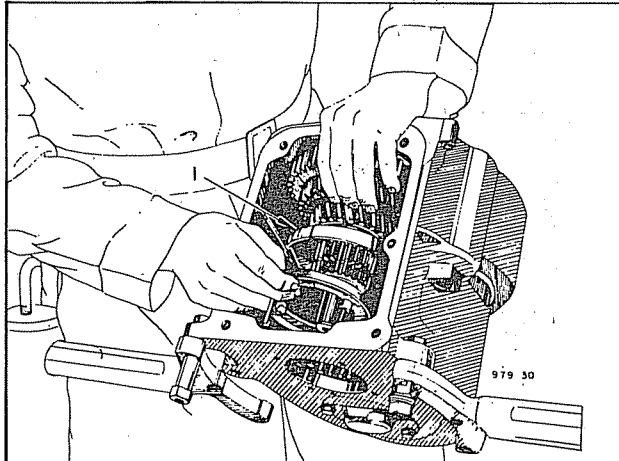

Fig. 16—Removing Synchroniser Drum.
- (8) Slide the mainshaft to the rear of the case and remove the bearing. With the mainshaft in this position, remove the synchroniser drum assembly. To do this, remove each part separately, instead of removing the synchroniser drum assembly as a unit. (Figure 16).